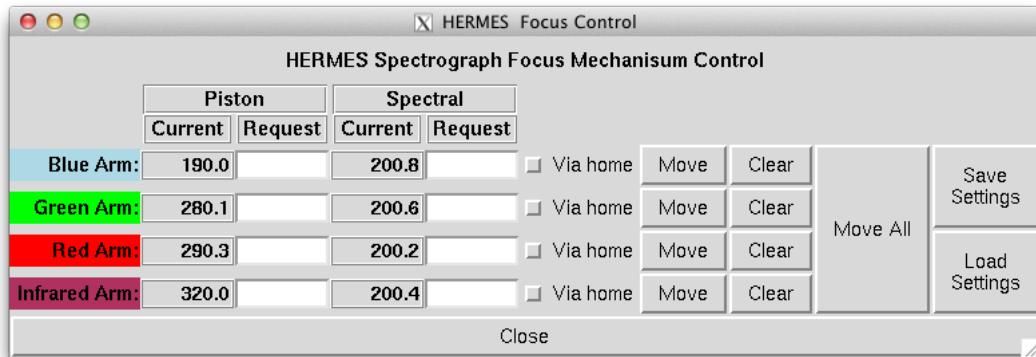
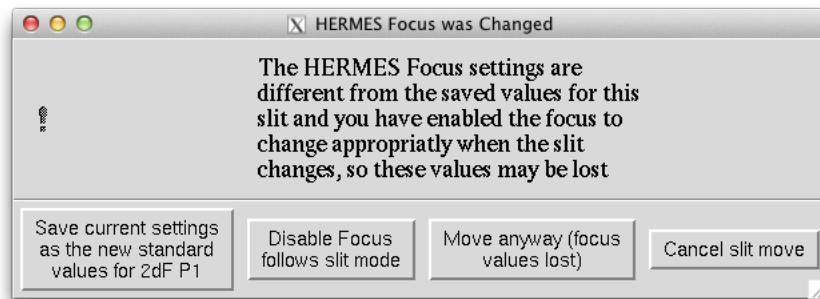

Figure 11.3: Focus Mech Window.
Figure 11.4: Confirm changes to focus values.
7. Once you are happy with the focus values, select the Focus Mech button from the HERMES Spectrograph Control Window. The Focus Mech Window will open up as shown in Figure 11.3. In here, select the Save Settings button to save the current focus values for the slit used. A window as shown in Figure 11.4 will come up asking to confirm the settings. Select Save current settings as the new standard. This will ensure the correct settings are applied each time you tumble between slits.